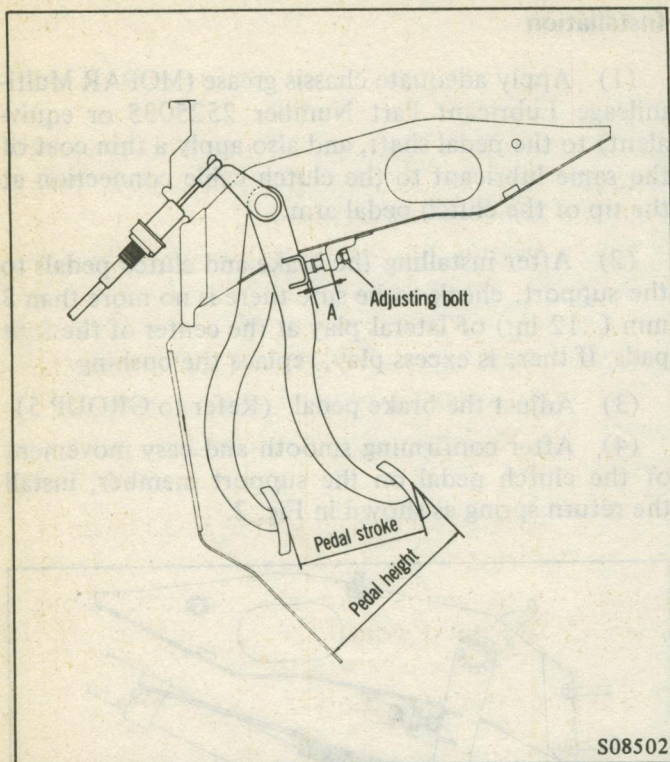

Fig. 3 Clutch Pedal Adjustment
- (1) Adjust the pedal height to the standard value with adjusting bolt and check the pedal stroke and distance A. (Fig. 3)